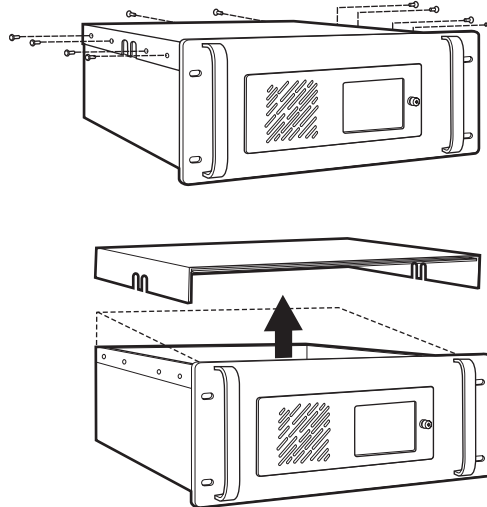

Figure 15. CM9700-CC1 Top Cover Removal
To remove the top cover of the CM9700-CC1, refer to Figure 15 and do the following:
3. Tilt the top cover up at a slight angle as indicated by the dotted line in Figure 15, and then pull the cover backwards to remove the cover from the front edge of the CM9700-CC1 chassis.